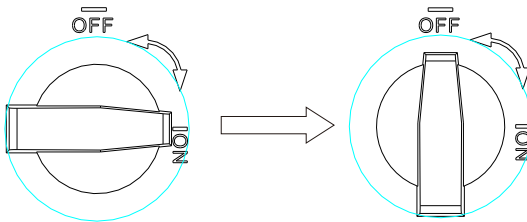

Fig 6.17
6.10.3.1 Turn the DC/AC Switch to the position "OFF" as shown in Fig 6.17.